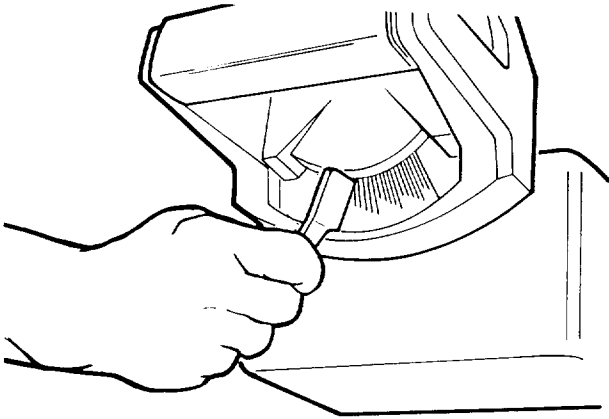

Fig. 124 - Bevel Lock - Locked
2. Position the motor at approximately 30° bevel angle and lock *bevel lock*. (Figure 124)